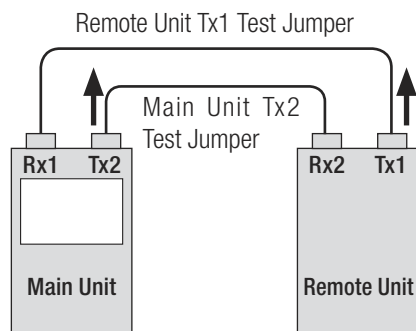

Figure 3-1. AutoTest Referencing
- AutoTest Referencing: Connect the test jumpers to the Main and Remote Units (Figure 3-1).